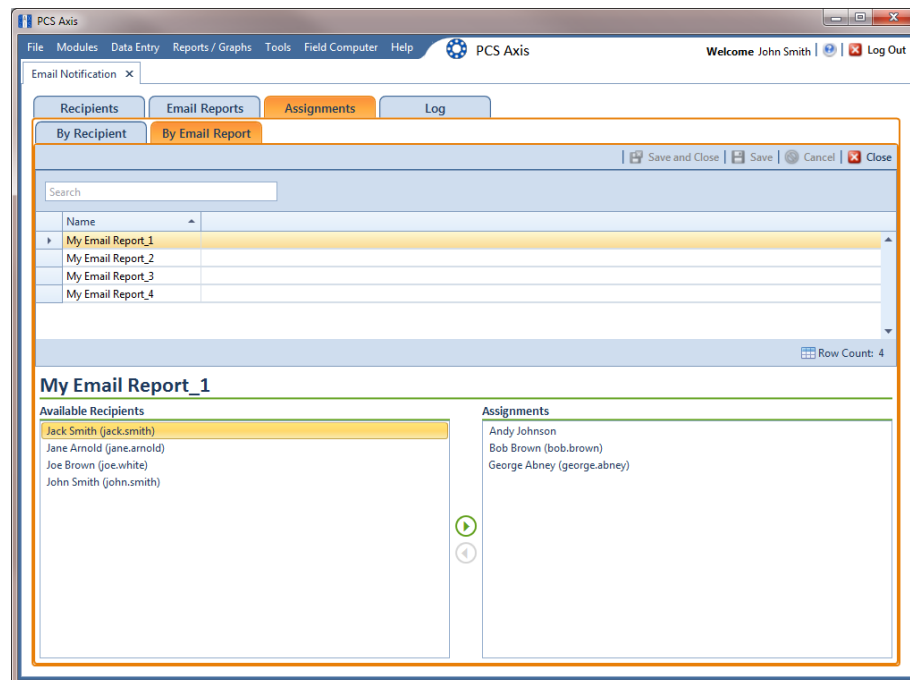

Figure 11-13. Assignments by Email Report
- a Click **By Email Report** **By Email Report** (Figure 11-13).